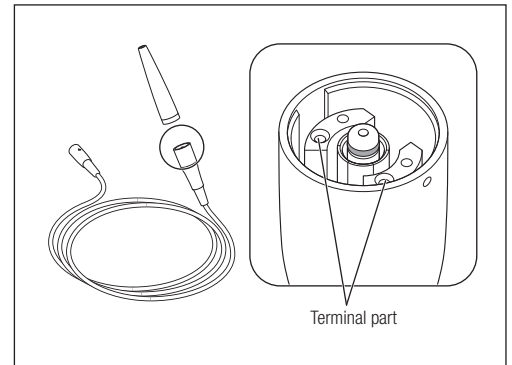

Fig. 36
- Do not use a sharp pointed stick or push the terminal part when cleaning the handpiece cord plug. Doing so may cause damage, resulting in contact failure (Fig. 36).